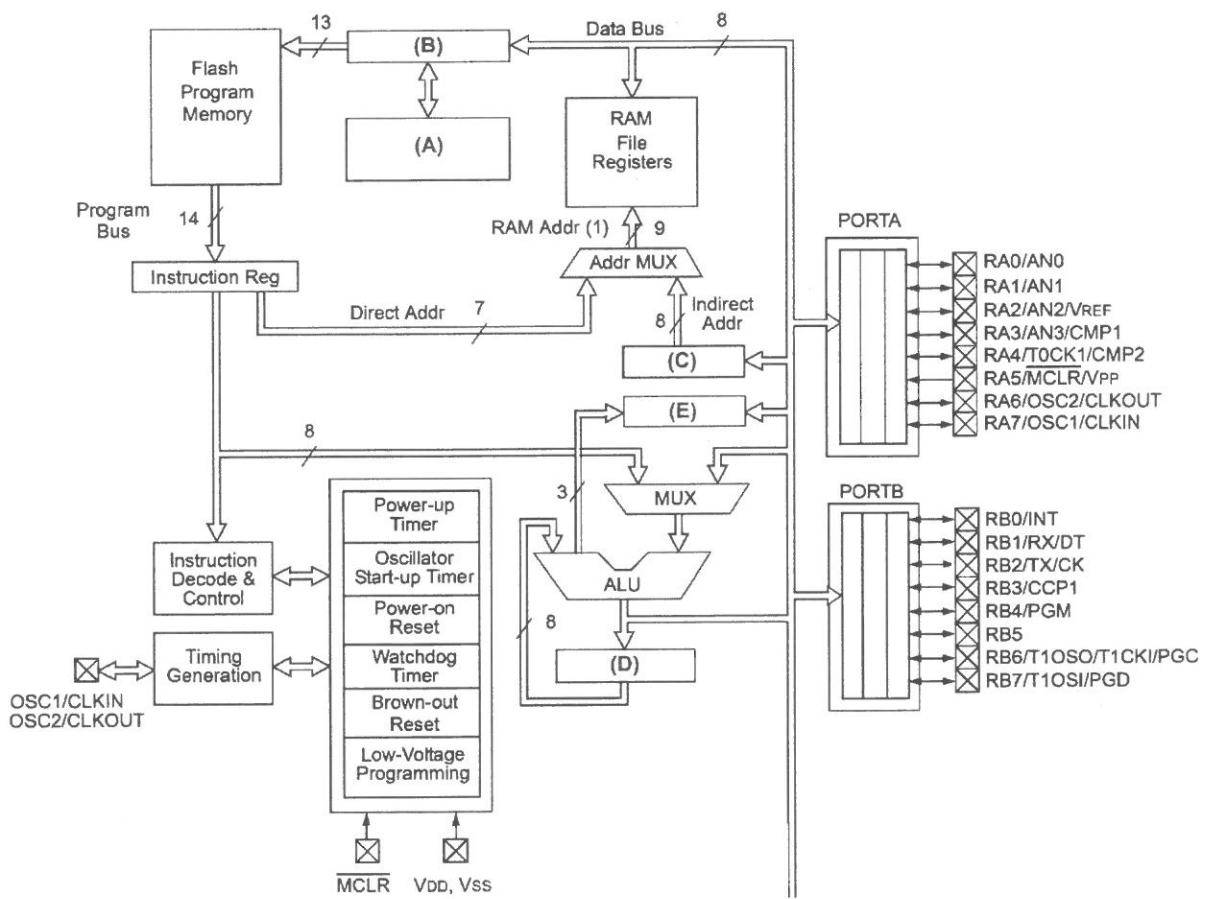

Figure 6(c)
- (b) Compare the operation of Figure 6(b-1) architecture with Figure 6(b-2) architecture. Name the architecture for Figure 6(b-1) and Figure 6(b-2).
- (c) Name and describe the function of the following labels in Figure 6(c) as shown below.
State the possible type of microcontroller for Figure 6(c) internal architecture. (1 mark)